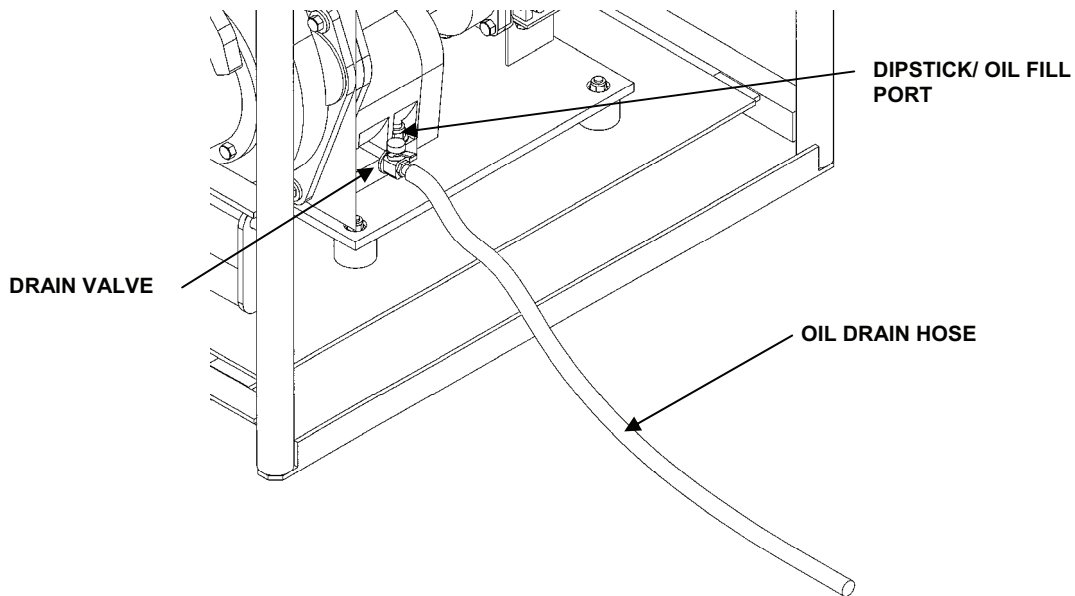

Figure 2. Draining Oil From Diesel Engine.
- Retrieve hose from Basic Issue Items (BII) box. Install oil drain hose on drain valve. See Figure 2.